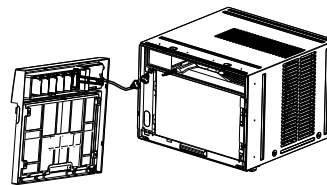

Fig. 4
6. Place front panel to one side. (See Fig. 4.)